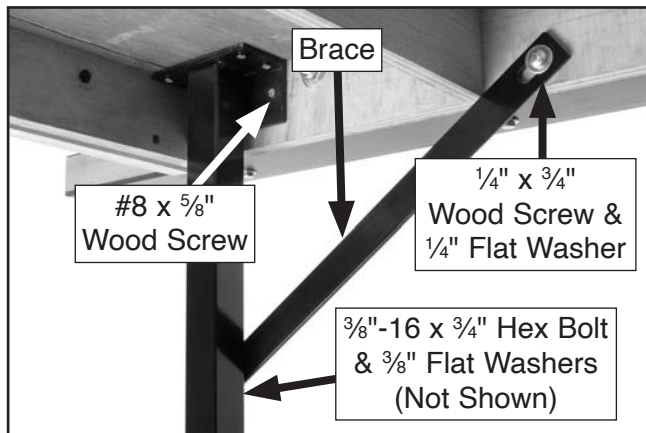

Figure 28. Leg and brace mounted.
3. Use (12) #8 x $\frac{5}{8}$ " wood screws to fasten legs to underside corners of extension table, as shown in **Figure 28**.
4. Use (2) $\frac{3}{8}$ "-16 x $\frac{3}{4}$ " hex bolts and $\frac{3}{8}$ " flat washers to loosely attach braces to legs (see **Figure 28**). These will be adjusted and fully tightened later.
5. Use (2) $\frac{1}{4}$ " x $\frac{3}{4}$ " wood screws and $\frac{1}{4}$ " flat washers to attach braces to extension table (see **Figure 28**).